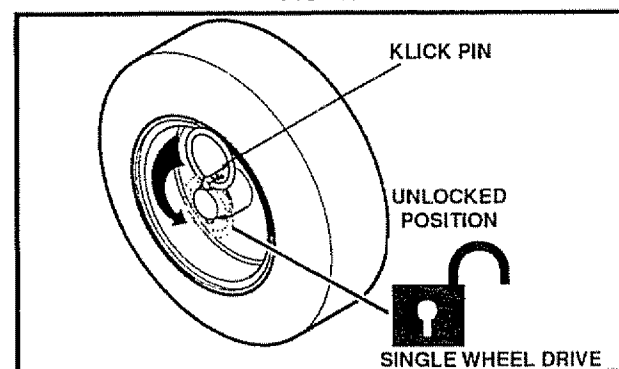

FIG. 12B
- For ease of maneuverability in light snow conditions, disconnect the klick pin from the wheel locked position and push into the single wheel drive (unlocked axle hole only) position (See Fig. 12B)